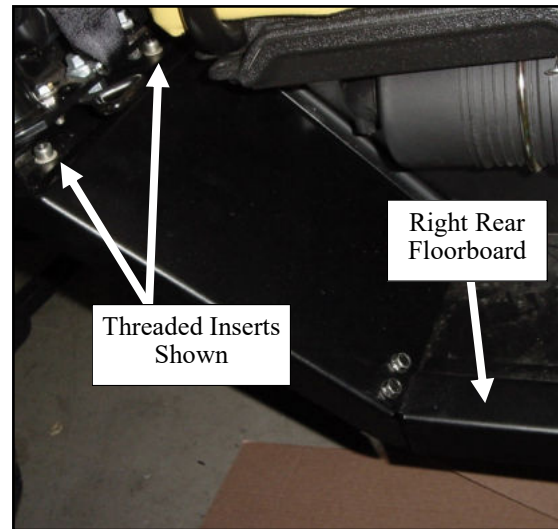

Fig. 12.1 (view of passenger's side rear shroud)
12.1 Install the rear shroud on passenger's side as shown in figure 12.1. Loosely fasten to the rear panel using the hardware listed below. **Do not tighten at this time.**